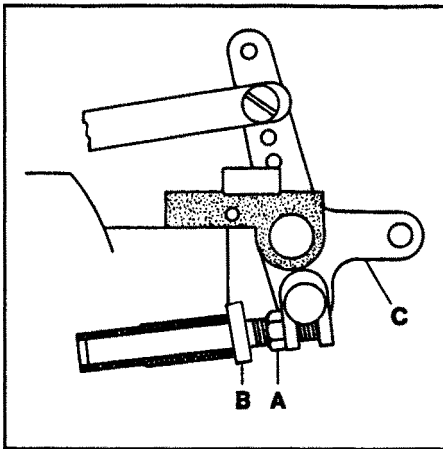
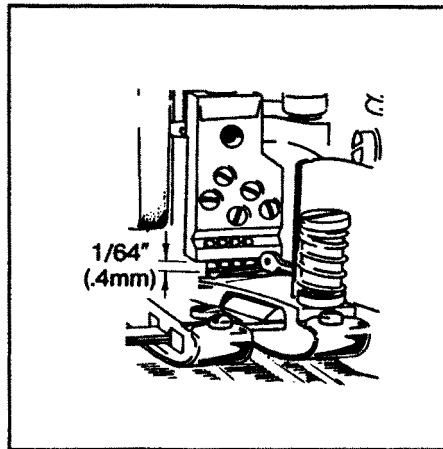

FIG. 24
FIG. 25
The presser foot lifter stop plunger must be set so the cover thread hook will not hit the bottom of the needle head as the presser foot is being lifted. Position the needle bar to its lowest point of travel. Loosen nut (A, Fig. 24) and turn plunger (B) clockwise until it strikes the crankshaft counterweight. While applying pressure to lifter (C) to lift the foot, back out of the plunger until the distance between the hook and the underside of the needle head is  $1/64$ " (0.4mm) (see Fig. 25). Tighten nut (A, Fig. 24).